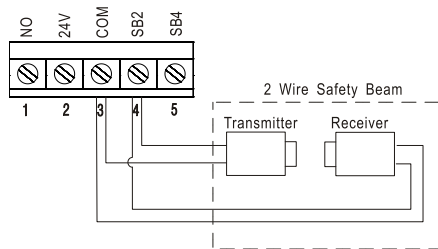

Fig. 12
- a. Genuine 2 wire Safety Beams (Fig.12)